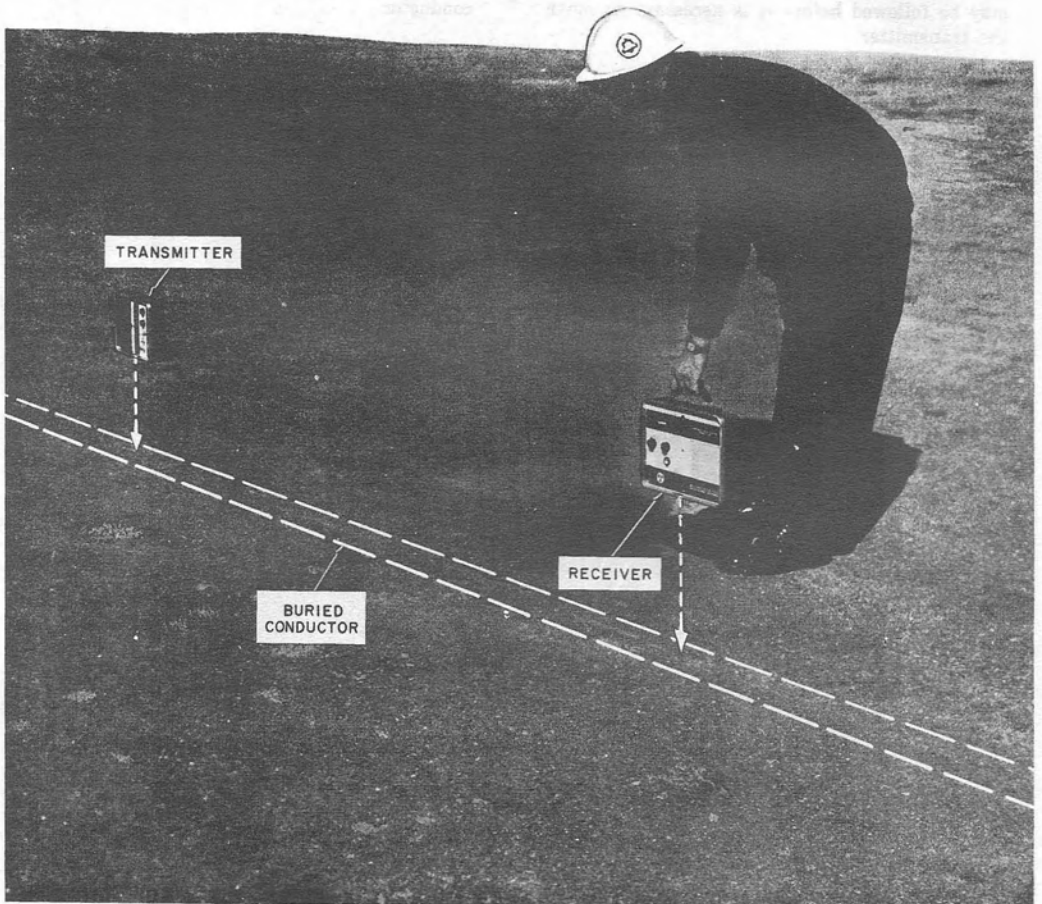

Fig. 5—Inductive Method of Operation—OFF Handle
5.04 In the *off handle* method of operation the transmitter and receiver are operated as separate units. The maximum energy is induced in the conductor when the transmitter is parallel and vertical to the conductor to be located (Fig. 5). The maximum response in the receiver is obtained when the receiver is parallel and vertical to the conductor to be located; the minimum response is obtained when the receiver is horizontal over the conductor to be located.
- (a) Place the transmitter unit on the ground directly over the conductor to be traced (Fig. 5). To ensure that the conductor to be traced is located and not some foreign or abandoned structure, the transmitter should be placed at a point where the conductor can be visually identified. When it is not possible to visually identify the conductor to be traced, it is desirable to expose the plant by digging. This will allow the transmitter to be correctly coupled to the conductor to be traced. The transmitter should be placed on edge with the handle up so its long dimension is parallel to the direction of the conductor.
(b) Carry the receiver so its long dimension is parallel to the assumed direction of the buried conductor (Fig. 5). In this manner the path of the buried conductor can be followed by keeping the audible tone at a maximum. Under normal conditions, up to 500 feet of conductor may be followed before it is necessary to move the transmitter.